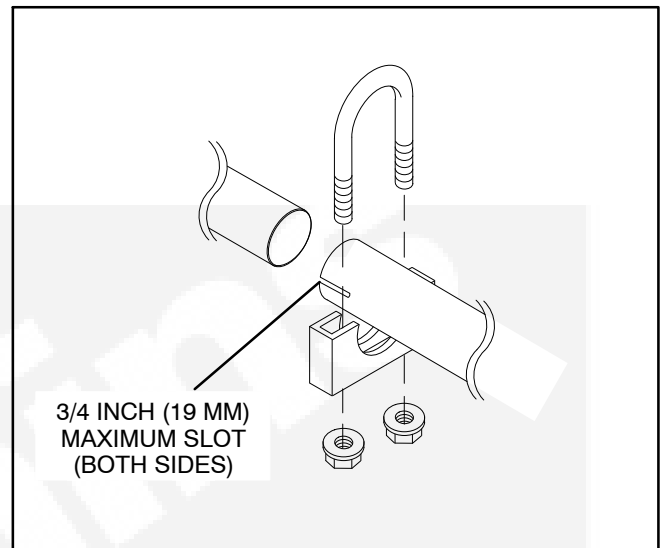

FIGURE 5. EXHAUST TAILPIPE CONNECTIONS
2. Use U-bolt muffler clamps to connect sections of tailpipe. It is recommended that the overlapping pipe be slotted as shown in Figure 5.